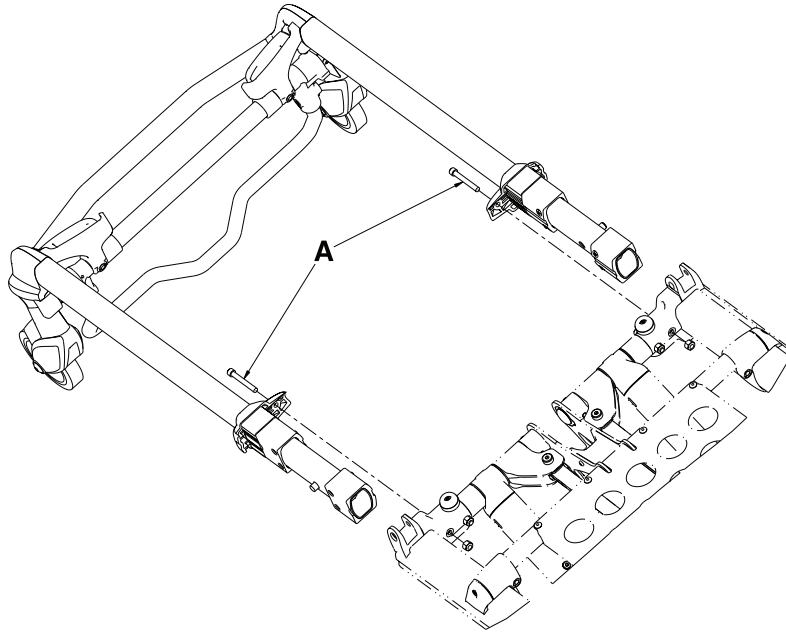

Figure 5: Head section
2. Using a 7/16" combination wrench and a 3/16" hex wrench, remove the two screws (A) that secure the cap bearings to the base litter interface bracket (one on each side) (Figure 5 on page 34).